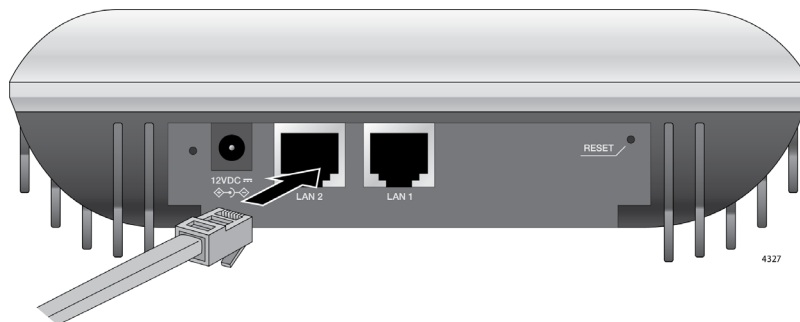

Figure 13. Connecting the LAN Cable
1. Connect the RJ-45 plug into the LAN port as shown in Figure 13.